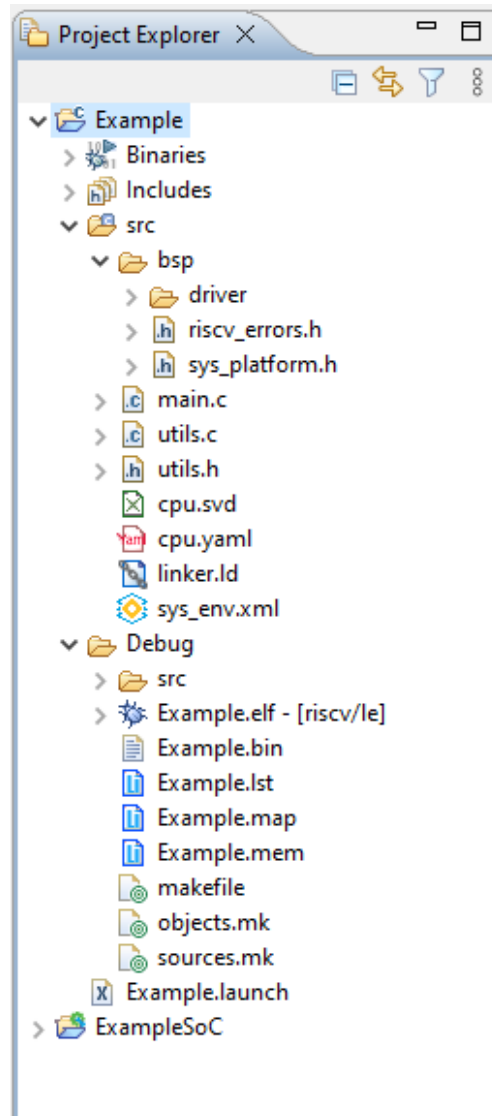

Figure 3.31. Contents of C/C++ Project
After building the project, the build output can be found in each build configuration folder, the **Debug** folder or the **Release** folder (Figure 3.31). The Debug or Release folder contains:
**Note:** Some of the files listed in Figure 3.31 are intermediate files that you do not need to take care of.